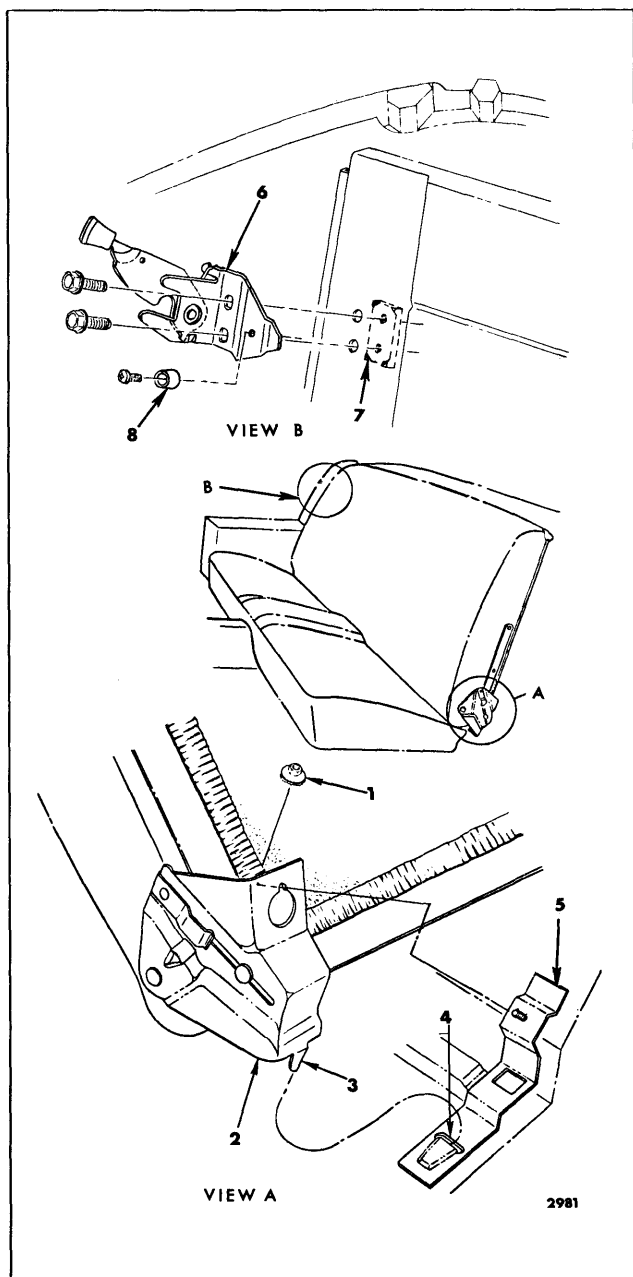

Fig. 15-48—Folding Rear Seat Back Assembly - "F" Body Styles
2. At both right and left seat back link, remove stud nut securing seat back link to anchor plate on floor pan (Fig. 15-48).
3. Lift seat back assembly upward to disengage tab of link from slot in anchor plate (Fig. 15-48), and remove seat back assembly from body.
2. Remove rubber bumper (Fig. 15-48) and remove compartment front trim foundation.
4. While holding the lock anchor plate on the back side of the seat back support, remove lock attaching screws (Fig. 15-48, View "B") and remove lock and anchor plate.